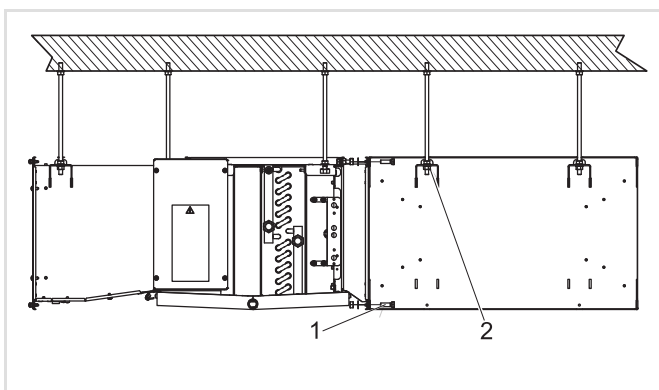

Fig. 8-2: Cleaning the sound attenuator
- Release the center and connecting bolts (Fig. 8-2, Pos.1) on both sides of the add-on modules and remove them.
- Loosen nuts (M8) of the associated threaded rods which fasten the module until the module can be disconnected (Fig. 8-2, Pos. 2).